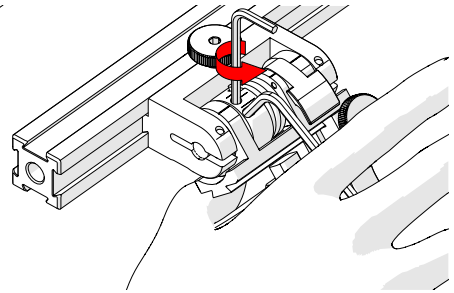

Fig. 181 - Press 3 mm hex wrench down
5. Lightly press the long arm of the 3 mm hex wrench down. Using the 2 mm hex wrench, loosen the force adjustment screw but do not remove it (Fig. 181).